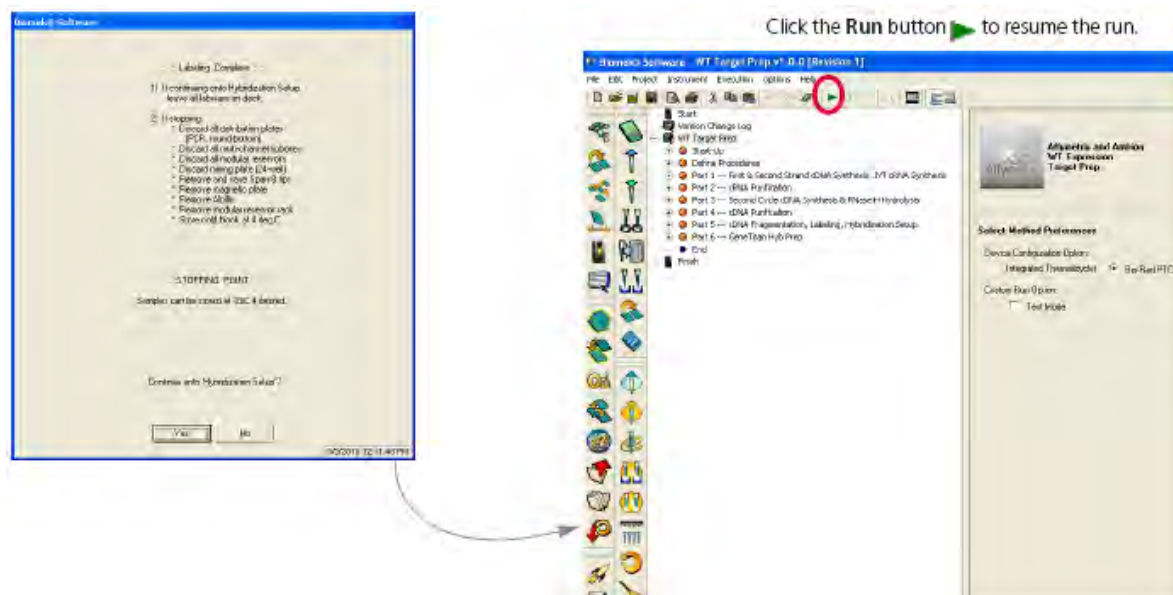

Figure 68 Stopping/resuming the run.
- When ready to resume, ensure that the thermal cycler lid is closed. Ensure that clean, fresh Span-8 tip boxes are placed on the deck, click **Run**, then click **Run** in the window that appears (Figure 68).